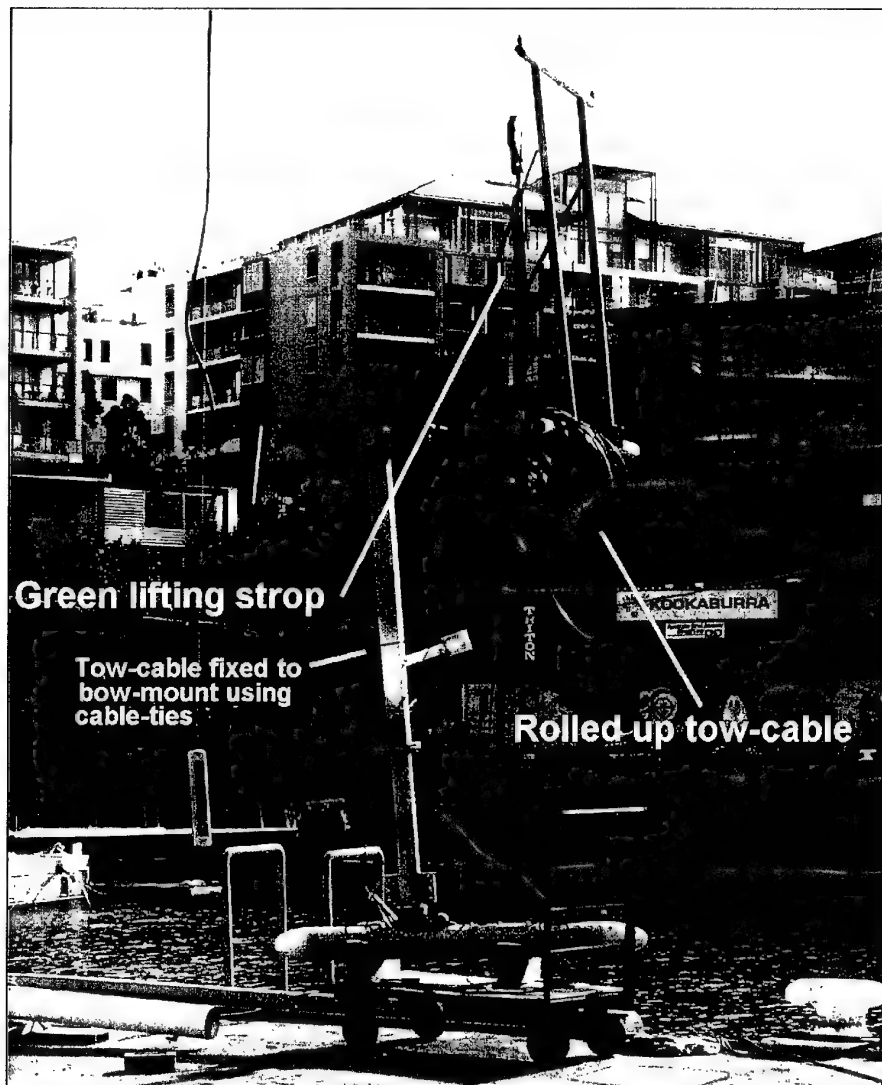

Figure 80 The final configuration of the bow-mount before it is lifted onto the workboat.
- Then loop the green lifting strop back onto itself under the top metal beam of the steel bow mount and connect the crane's hook into the loop that has been made (see Figure 80). Using a suitably qualified person at the controls of the crane, raise the steel bow-mount frame and manoeuvre it over the middle of the sonar. Carefully lower the bow-mount frame onto the aluminium pole making sure that the orientation of the frame and the towfish are in line (otherwise the sonar maybe orientated back to front when it is mounted to the boat). Connect the upper and lower parts of the bow-mount frame together using four screws with four nylon-coated nuts. Use the crane to keep the frame upright. This will permit the other set up procedures to occur more easily.
- When the electrical continuity of the Subconn connection at the sonar has been tested and deemed successful, unscrew the tow-cable from the back of the TPU and roll it up, using cable ties to keep the roll from unwinding. To prepare for moving the bow-mount onto the bow of the boat, temporarily put the rolled up tow-cable on one arm of the bow-mount (see Figure 80). This stops the tow-cable getting in the way when the frame is being put on the boat. Use another cable tie to stop the rolled up tow-cable from falling off.